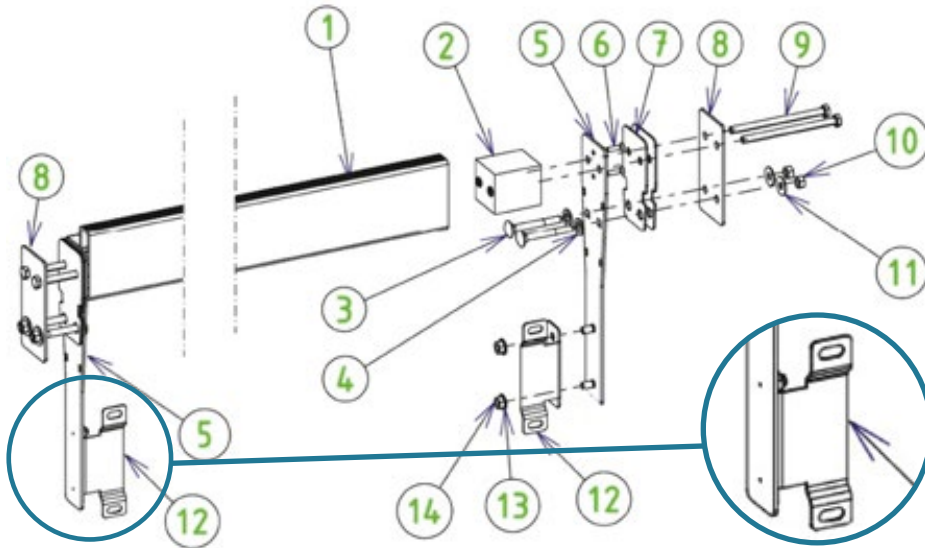

Figure 41 – Assembling and mounting the beam
The beam assembly steps are illustrated in Figure 41. The screws required for assembly are enclosed in bag Y. In this figure, the wooden wall is located between parts 7 and 8, and the liner is sandwiched between the two rubber gaskets (7).
Fasten the two pit wall mounting brackets (12) to the beam mounting plates (5) using four screws (14) and four 8 mm diameter A4 SS washers (13). The protruding parts of the pit wall mounting brackets (12) that feature a slot should be located on the same side of the beam (see the zoom in Figure 41).